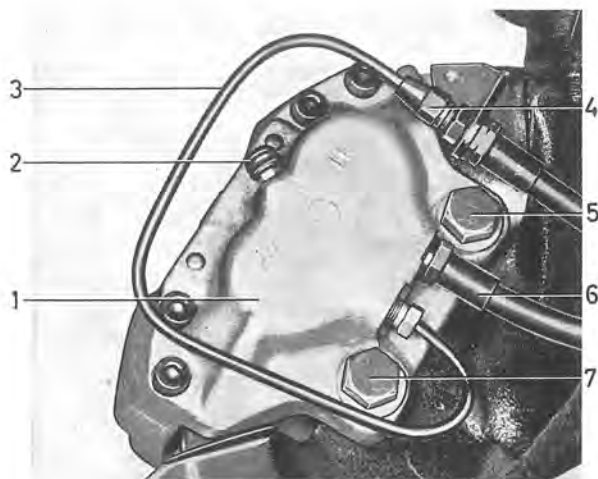
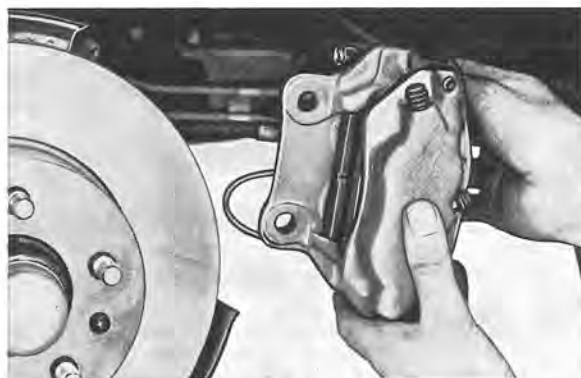

Fig. 5-20. Front wheel brake unit fitted
Fig. 5-21. Removing front wheel brake caliper
4. Unscrew the attaching bolts (5 and 7, Fig. 5-20) and remove the brake caliper, see Fig. 5-21.